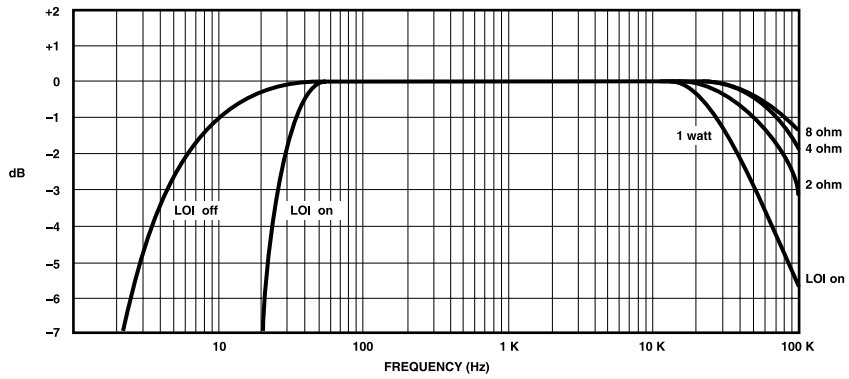

Figure 2.3 Typical Frequency Response
**Frequency Response:**  $\pm$ 0.1 dB from 20 Hz to 20 kHz at 1 watt (see Figure 2.3).